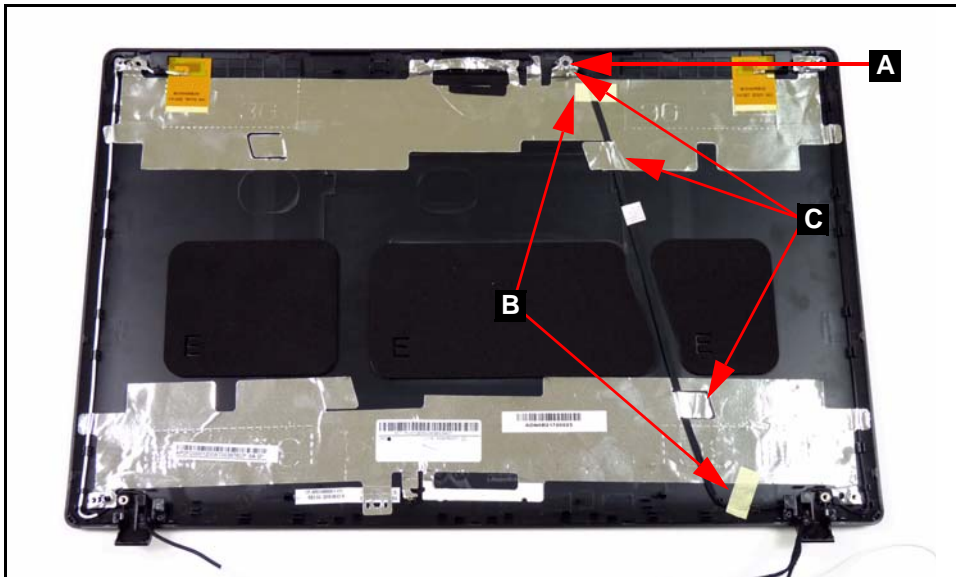

Figure 3-51. Microphone Set
1. Locate microphone set (A) in LCD cover. (Figure 3-51)
2. Remove adhesive tape (B) securing the microphone cable. (Figure 3-51)
3. Remove tabs (C) away from microphone set. (Figure 3-51)
1. Put microphone set on LCD cover. (Figure 3-51)
2. Fold tabs (C) over to secure microphone set. (Figure 3-51)
3. Put adhesive tape onto microphone cable to secure it to LCD cover. (Figure 3-51)